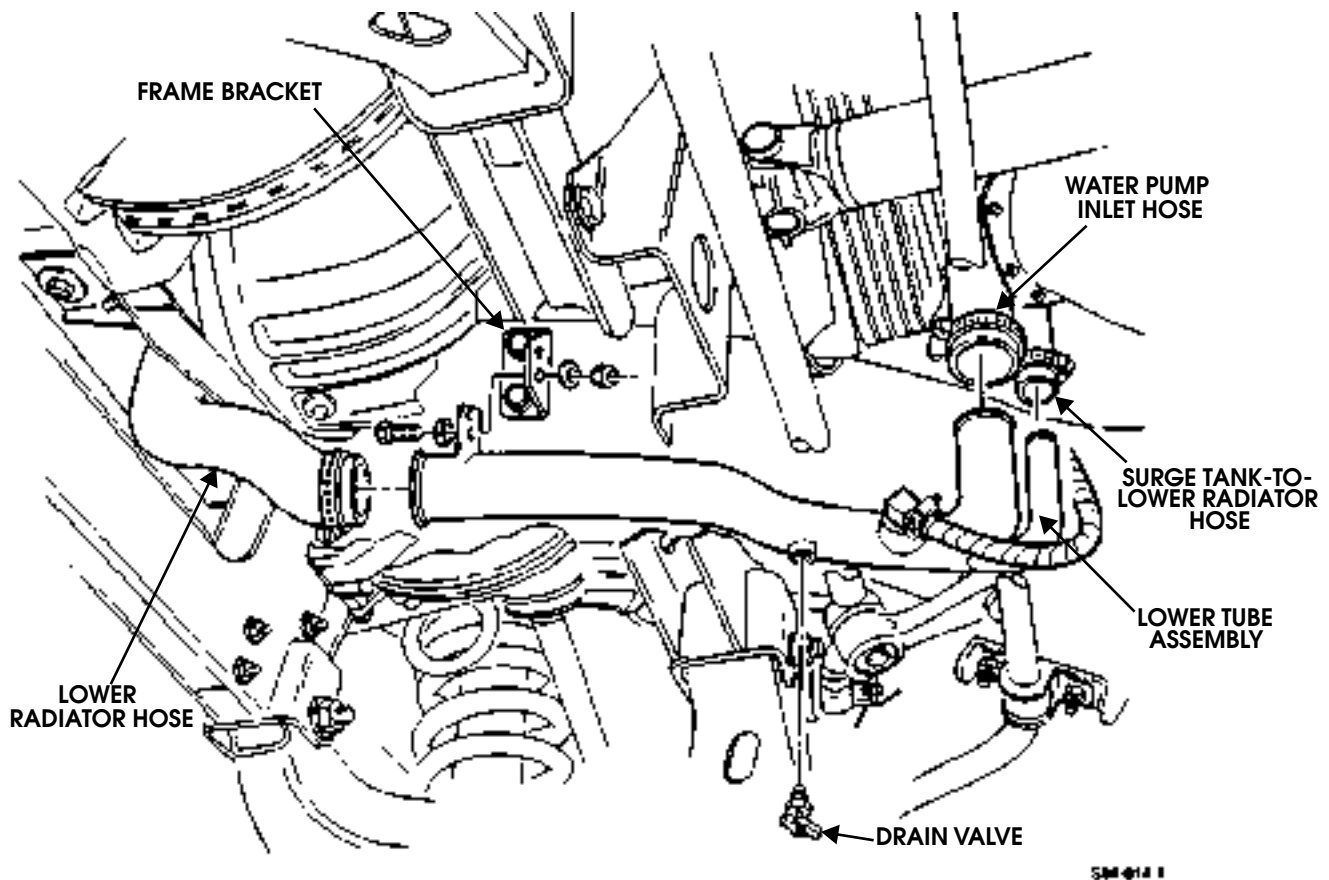

Figure 4-17: Radiator Lower Tube Assembly Location
2. Remove drain valve from lower tube assembly (Figure 4-17).
1. Secure lower tube assembly to frame bracket with bolts, washers, and locknuts. Tighten locknuts to 6 lb-ft (8 N•m) (Figure 4-17).